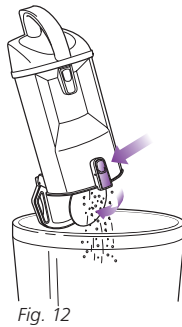

Fig. 12
- 2 Hold the dust cup over a trash receptacle and press the button at the bottom of the dust cup to empty the dust cup. (Fig. 12)